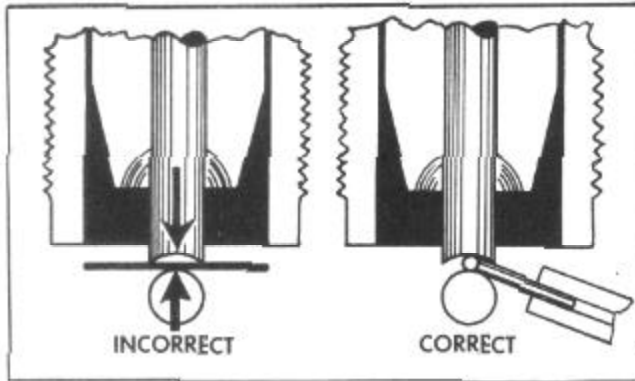

FIGURE 4
3. Adjust spark plug gaps to .032" using a bending tool and wire loop gauge, Figures 4 and 5.